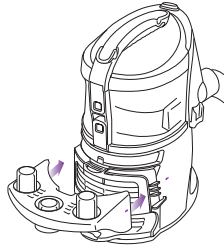
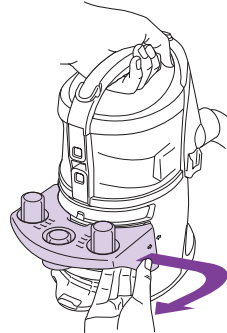

Fig. 2
Fig. 3
- 2 Insert the removable tool caddy onto the back of the Portable Vac. (**fig. 2**) To remove the tool caddy, hold the vacuum by the handle, pull out slightly from the right side and then remove it from the Portable Vac. (**fig. 3**)